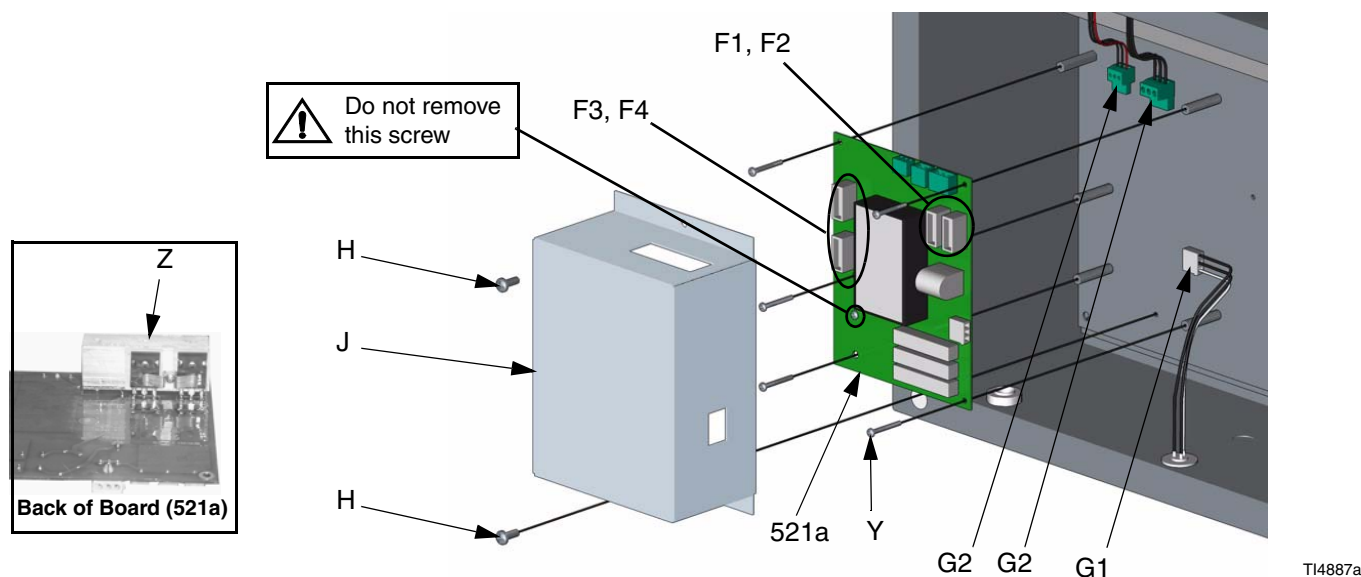

FIG. 10
3. Disconnect cables (G1, G2, G3). FIG. 10.
4. Remove 2 screws (H) and remove cover (J).
5. Noting their location, remove 5 screws (Y) from power supply board (521a). Remove board.
6. Apply thermal compound to the heatsink (Z) on the back of the new power supply board (521a).
7. Install the new power supply board with the 5 screws (Y).
8. Install cover (J) with 2 screws (H).
2. Remove the fuse (F1, F2, F3, or F4) from its fuse holder. FIG. 10.